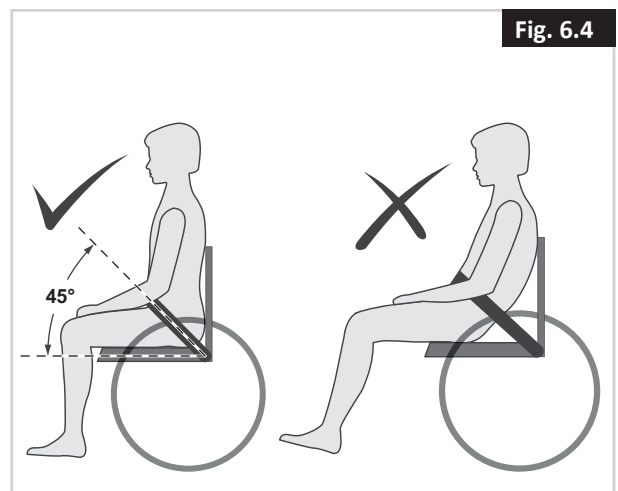

Fig. 6.4
- Generally, the lap strap should be fixed so that the straps sit at an angle of approximately 45° (Fig. 6.4), and when correctly adjusted should not allow user to slip down in the seat.